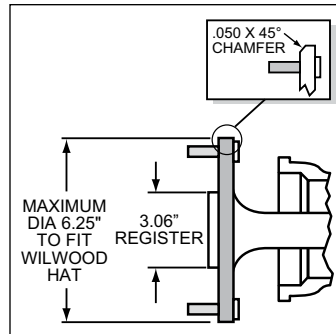

Figure 5. Axle Flange Maximum Dimension
- Maximum axle flange diameter must be no larger than 6.25" w/.050" x 45° chamfer, Figure 5.